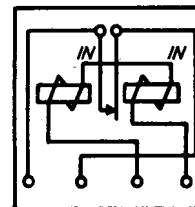

FIG 16 - WINDING AND SPRING TERMINAL ARRANGEMENT AS VIEWED FROM THE FRONT (CONTACT SIDE) - 150 TYPE RELAY
2.14 As viewed from the front of the relay the contact spring is indicated by 1 and the armature by 2. The winding terminal designations as viewed from the front of the relay are shown in Fig. 16.